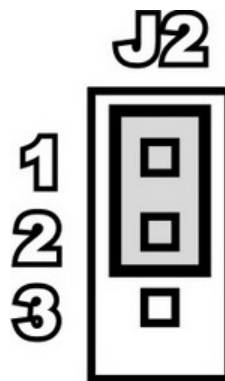

Figure 7 – Position of the Jumper on J2
14. Next, connect the jumper on **J2** (Heater) to **position 1** and **2** as shown in Figure 7. This will turn on the heater with a 9 V power supply to heat up resistors **R6** and **R7**. The digital output LEDs will increase bit by bit linearly as the temperature on the **LM35** temperature sensor increases.